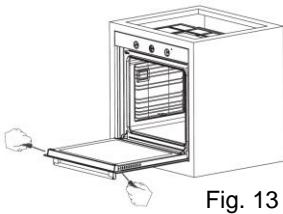
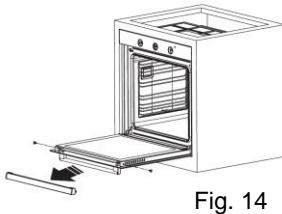
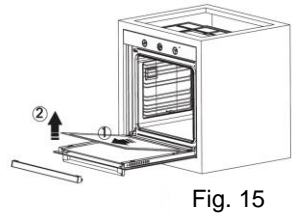

Fig. 13
Fig. 14
Fig. 15
- Remove the screws located on both sides (right and left) of the profile as shown in Figure 13, then remove the profile by pulling it out as shown in Figure 14. The glass will be free after removing the profile as shown in Figure 15. Carefully pull the released glass towards you. If it includes a central glass, it can also be removed in the same way. The outer glass is fixed to the door frame. Once the crystals are clean, proceed to place them in the reverse way to that described to extract them.